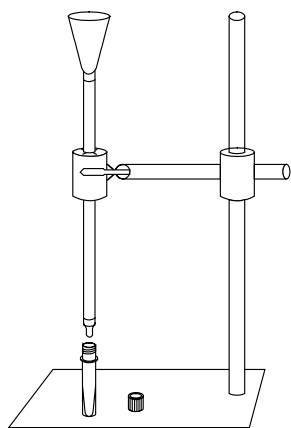

Figure 2. Column assembly.
2.1 Assemble the column and position it upright (see Figure 2): Attach a funnel to the top of a column. Gently insert the column through the X-cut in one of the provided foam holders to avoid damaging the column. Using the foam holder, secure the column with a clamp to a ringstand. Carefully remove the cap from the bottom of the column.